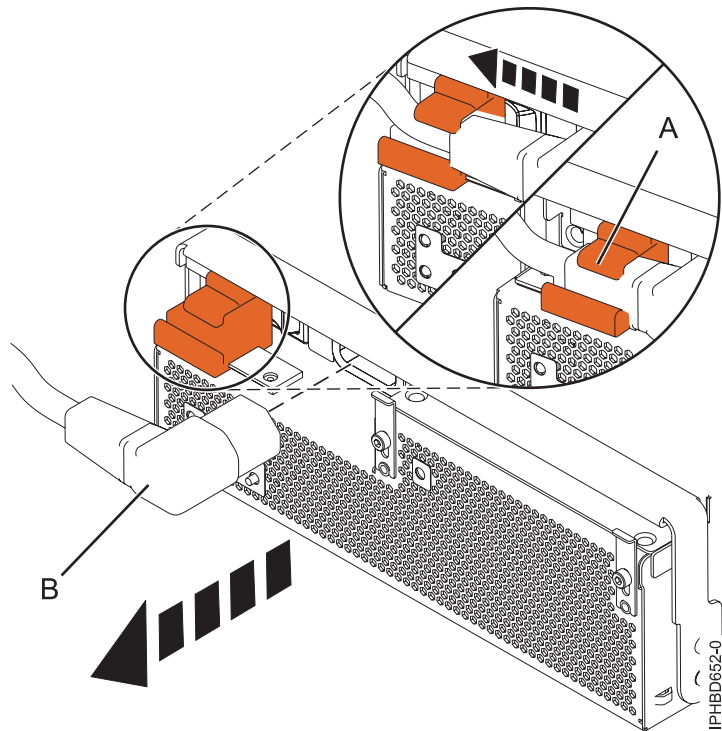

Figure 6. Disconnecting the power cable from the front of an expansion unit
6. For the power supply that you want to remove, slide the cable retention bracket to the open position (A), and then disconnect the power cable (B) as shown in Figure 6.